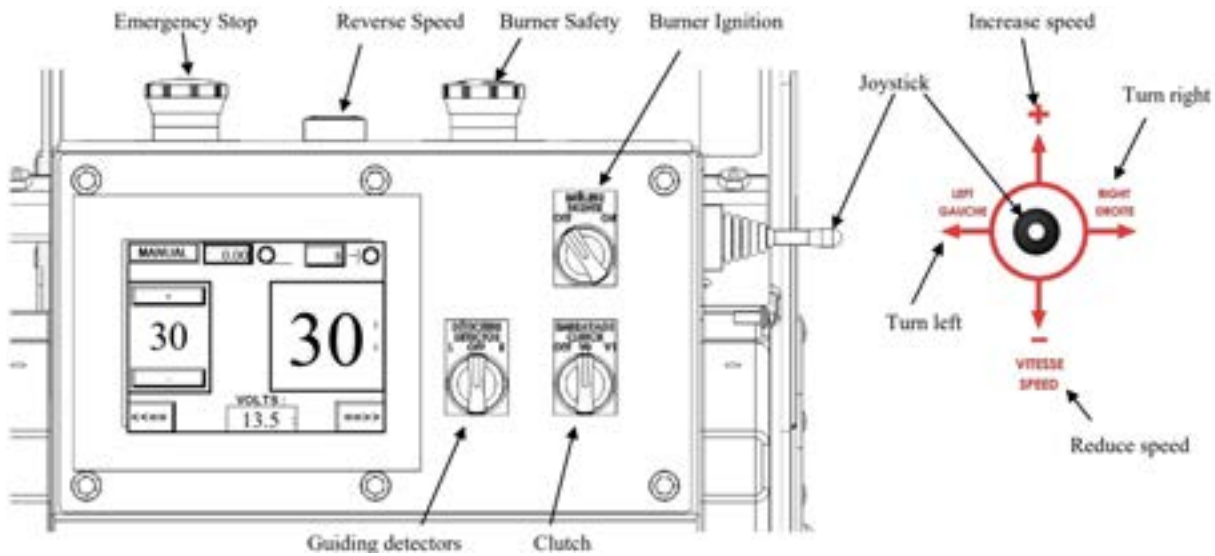

Figure 7
**b. Burner Safety Push Button (Fig.7)**
**c. Speed (Fig. 7)**